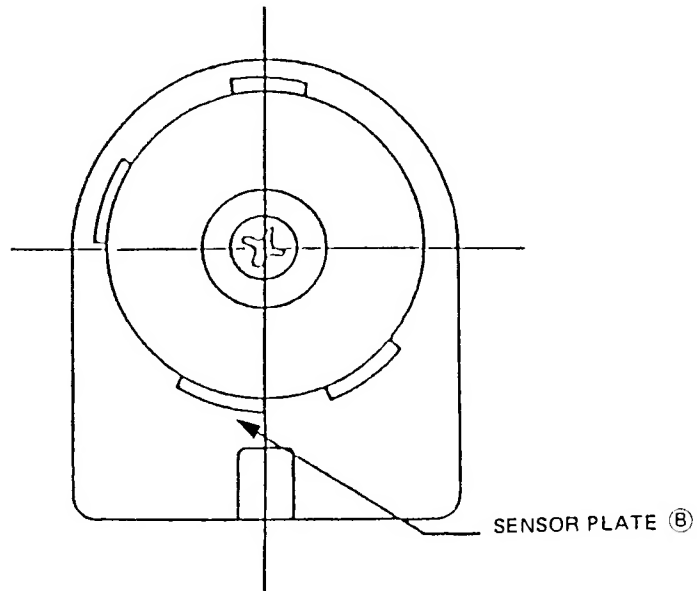

Fig. 58
3. The trimmer solenoid is energized when the sensor plate ⑤ reaches a point shown in Fig. 58.